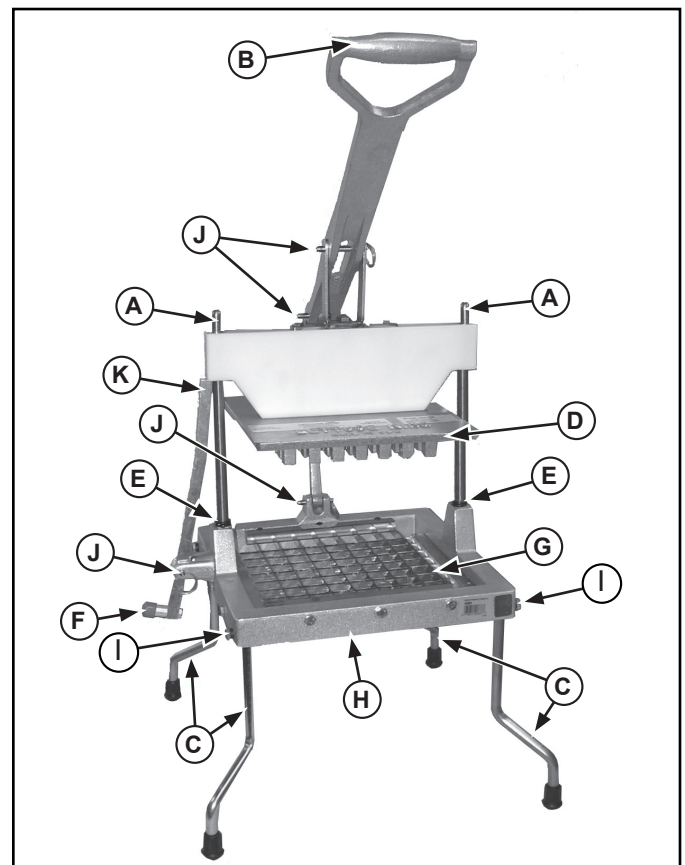

Figure 2. Features and Controls Lettuce King IV.
Lettuce King IV: Hold the handle (B), remove hand from the blade assembly area and place that hand on the lock lever (F). Push lock lever (F) in to release the lock arm from the locked position. See Figure 2.